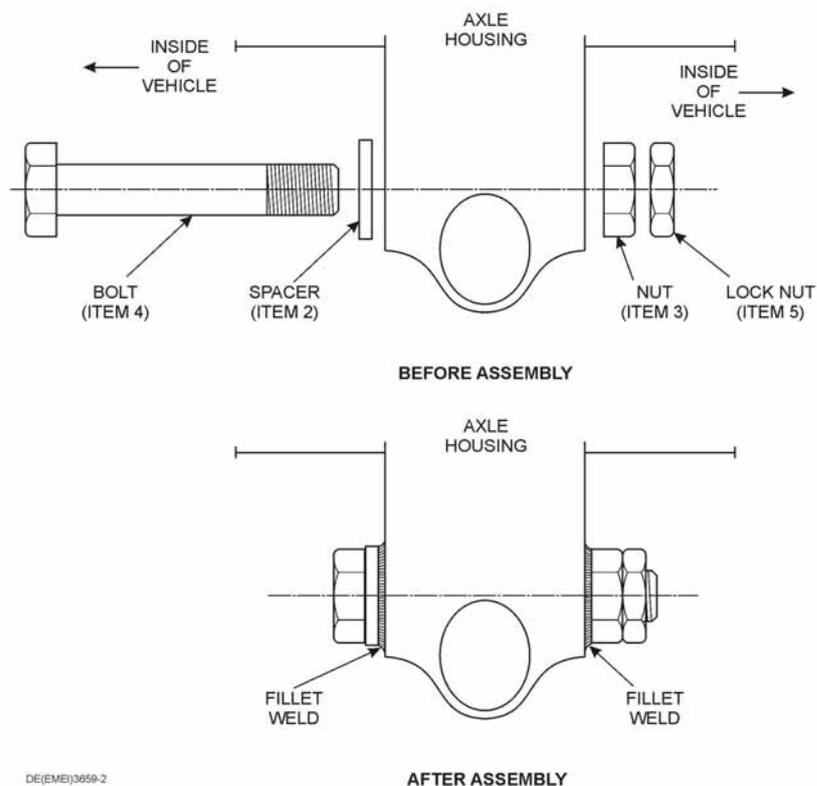

Figure 69 Rear Lower Link
- g.** Fit Items 2, 3 and 4 from Table 11 to the axle case mounts (Figure 69), ensuring that the bolt is fitted from inside to out and is parallel to the axle casing centre line. Tighten the bolt firmly.
- h.** Weld the inside spacer and the outside nut to the axle casing mount (Figure 69), with a 3 mm continuous fillet weld, using either:
- (1)** Manual Metal Arc Welding (MMAW) process using electrodes conforming to AS/NZS 1553.1: E4818 that have been reconditioned prior to use in accordance with the manufacturer’s instructions; or
- (2)** Gas Metal Arc Welding (GMAW) process using consumables conforming to AS/NZS 2717.1: ES6-GC/M-W503AH and shielding gas conforming to AS 4822:SG-ACO-16/2.75.